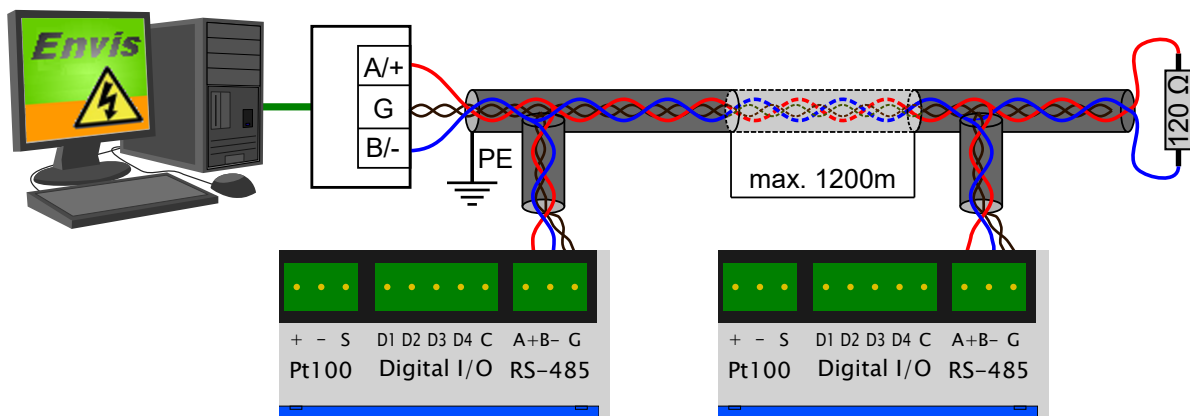

Figure 9: Connection of RS-485 communication lines to BCPM 233.012 devices BCPM 233.012.
**RS-485** It is usually used as an interface for remote reading of current values, archive records, and instrument settings. The RS-485 serial line uses the A +, B-, and G-signal terminals on the terminals described by RS-485 (fig. 9). The ends of the communication line must be terminated with the specified resistance.